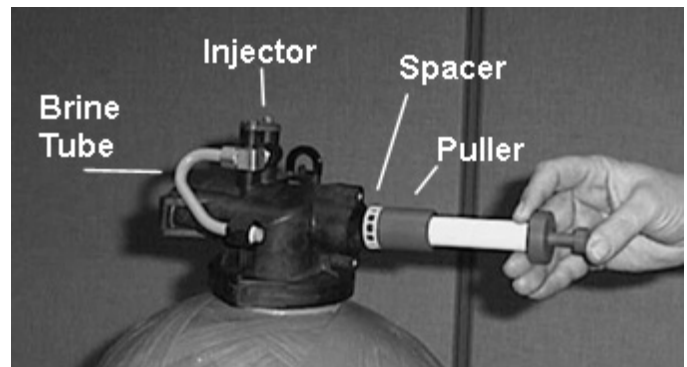

FIGURE 8
9. All components are now removed from the valve assembly (V). See Figure 8.
10. The valve assembly (V) is now ready for replacement. See Figure 8.
12. Turn the handle clockwise until the handle is in the "ON" position (see Figure 8). The handle should be turned until the handle is in the "ON" position. The handle should be turned until the handle is in the "ON" position.
13. Turn the handle clockwise until the handle is in the "ON" position (see Figure 8). The handle should be turned until the handle is in the "ON" position. The handle should be turned until the handle is in the "ON" position.
14. Turn the handle clockwise until the handle is in the "ON" position (see Figure 8). The handle should be turned until the handle is in the "ON" position. The handle should be turned until the handle is in the "ON" position.